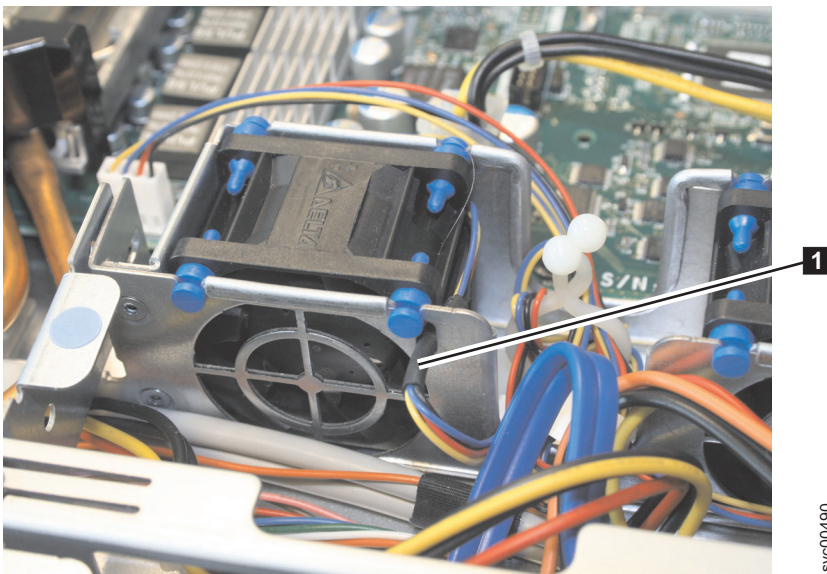

Figure 248. Routing the SAN Volume Controller 2145-8A4 fan cable
- a. Make sure that the fan cable sits in the channel **1**, as shown in Figure 248, on the side of the fan.